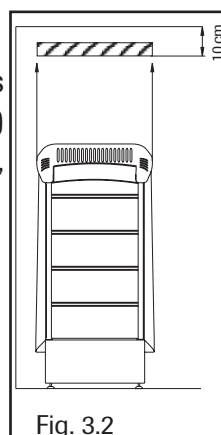

Fig. 3.2
- Install the sensing element to the wall with the screws supplied (2 screws \varnothing 2,9 x 16) . Cf. Fig. 3.2. Install the sensor to the lined area according to figure 3.2